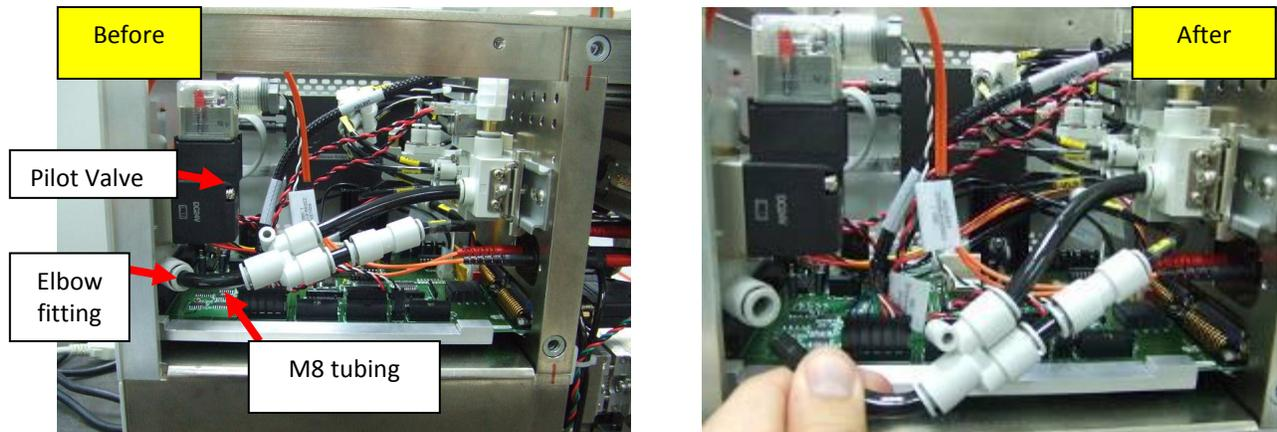

Figure 6: Disconnecting M8 tubing end from the Pilot Valve
6. Unplug the M8 tubing end that is linked to the elbow fitting of the Pilot Valve (Brand: SMC, MPN: EVT307-5DO-01F-Q) as indicated in Figure 6.